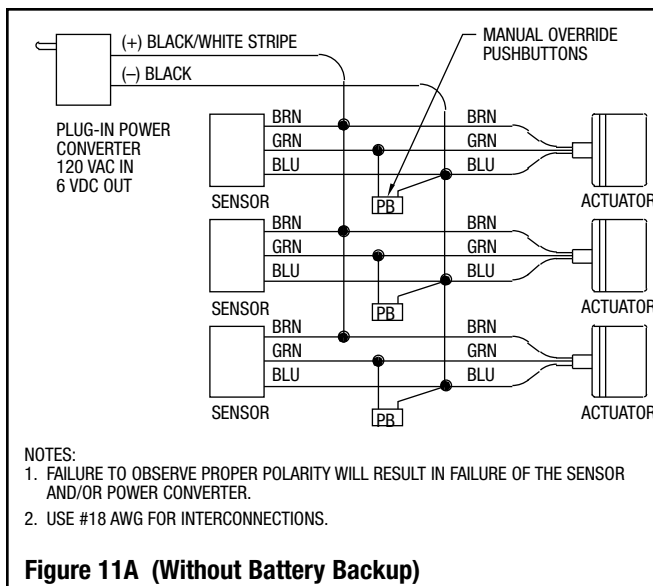
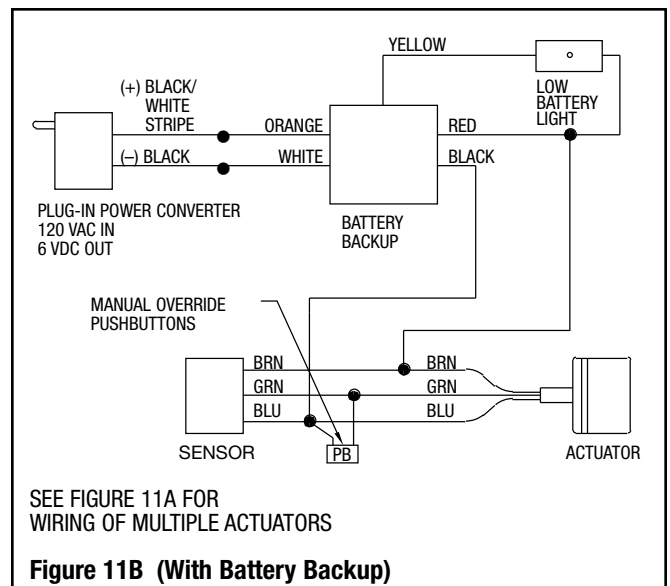

Figure 11A (Without Battery Backup)
Figure 11B (With Battery Backup)
STEP 6 – Electrical Hook-up (Figures 11A and 11B)
Be certain power is off to prevent damage to electrical components. Connect the sensor to the actuator and power converter exactly as shown in Figure 11A, Figure 11B if battery backup is being used. Also, the wiring diagram on the battery backup may be used.
Install inner nut, bracket and outer nut on threaded shaft of override button. Mount bracket to yoke. Adjust the distance so that the override button will protrude through the wall plate using the nuts on each side of bracket. The threaded shaft end of the override button should be flush with wall plate. Connect the override button as per Figure 11A or 11B. Mount the assembled yoke to the electrical box.